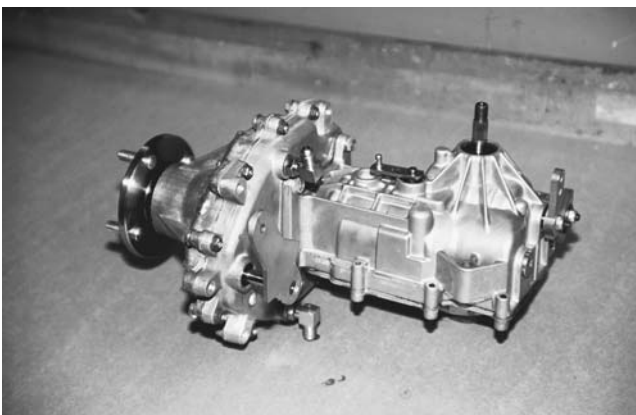

Figure 10-41.
1. REMOVE TRANSMISSION FROM TRACTOR. See Figure 10-41.